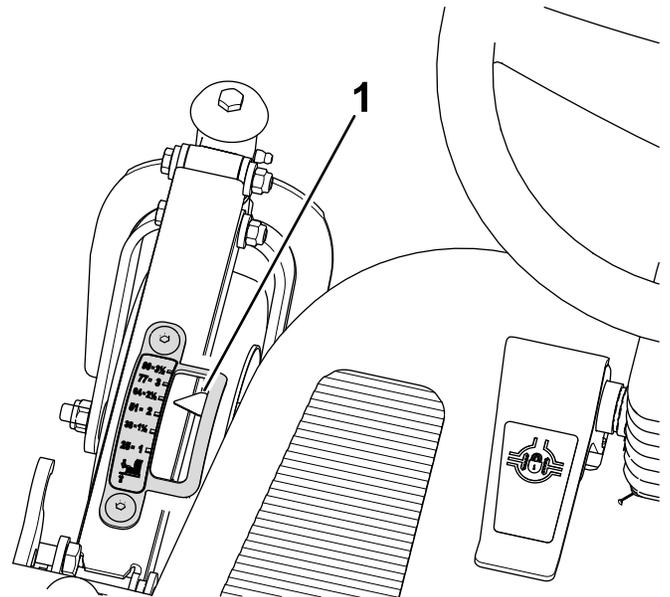

Figure 98
1. Adjust the height of cut to the 64 mm (2-1/2 inch) position (Figure 98).